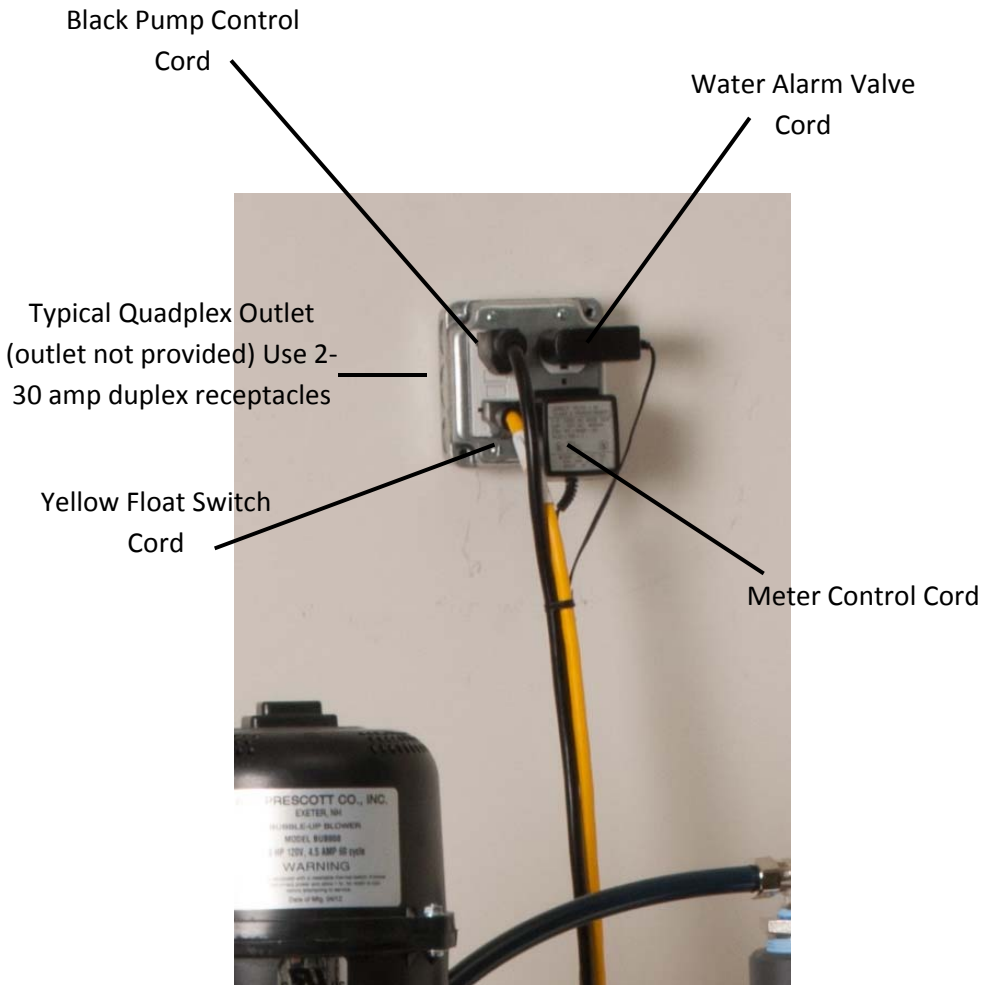

Figure 8 - Power Cords
7. The Bubble-Up® Interactive™ requires a quadplex outlet wired to a dedicated 20A circuit. Use a 20 amp duplex GFCI receptacle for the yellow float switch cord for UL (See Figure 8). This circuit should use #12 AWG wiring.
15. Plug yellow float switch cord, meter control cord, and water alarm valve cord into dedicated 20 amp quadplex outlet. See Figure 8.
2. Before plugging in the Bubble-Up® Interactive™, identify the plug-in cords. See Figure 8.